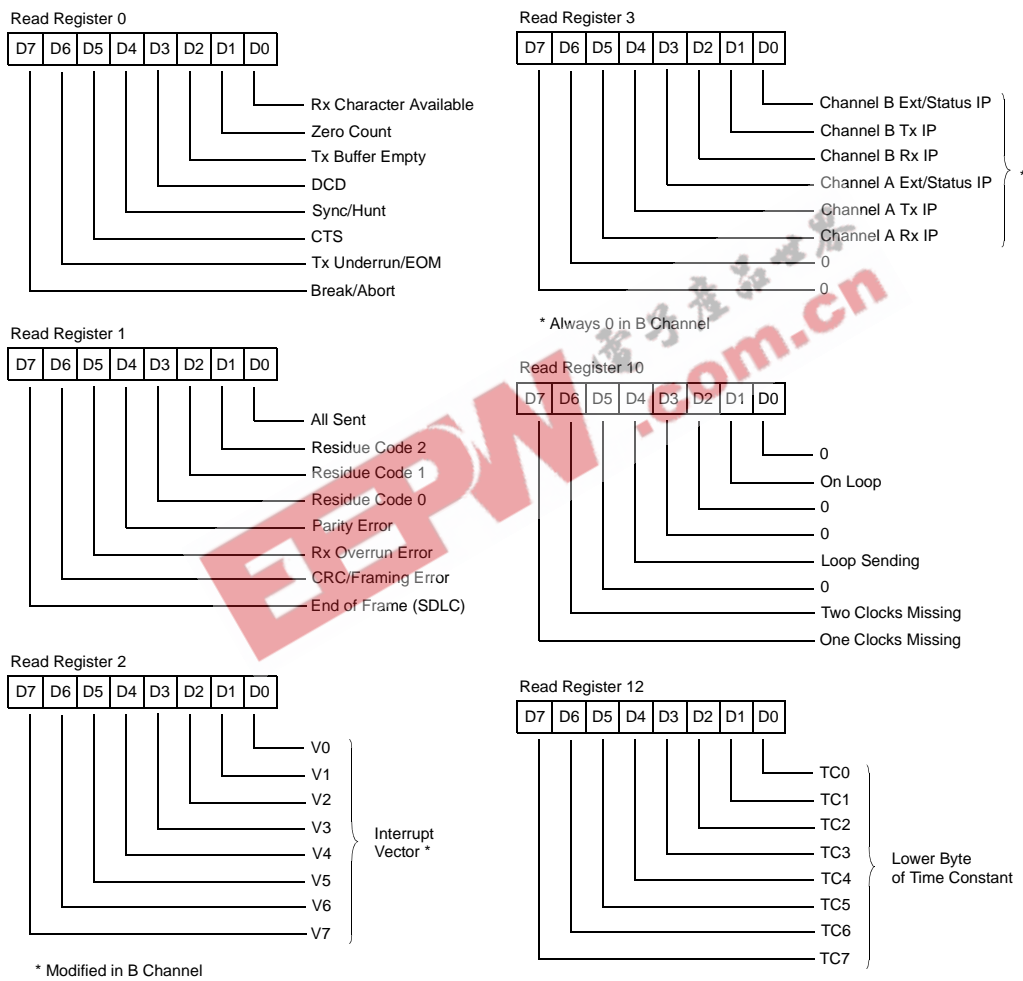

Figure 19. Read Register Bit Functions
The SCC contains ten read registers (eleven, counting the receive buffer (RR8) in each channel). Four of these may be read to obtain status information (RR0, RR1, RR10, and RR15). Two registers (RR12 and RR13) are read to learn the Baud Rate Generator time constant. RR2 contains either the unmodified interrupt vector (Channel A) or the vector modified by status information (Channel B). RR3 contains the Interrupt Pending (IP) bits (Channel A only – , Figure 19). RR6 and RR7 contain the information in the SDLC Frame Status FIFO, but is only read when WR15 D2 is set (Figures 19 and 20).